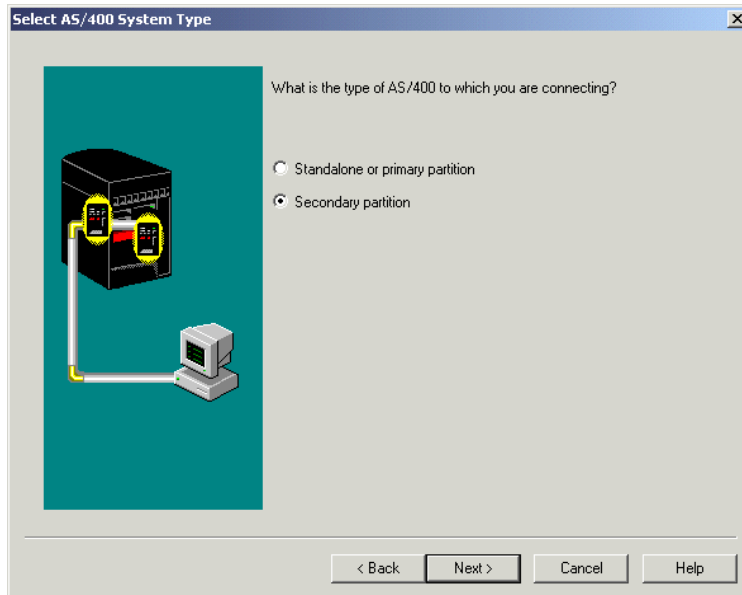

Figure 7-35 Select AS/400 System Type display (secondary)
5. On the next display (Figure 7-35), you specify the system type. Click **Secondary partition**. Then, click **Next**.